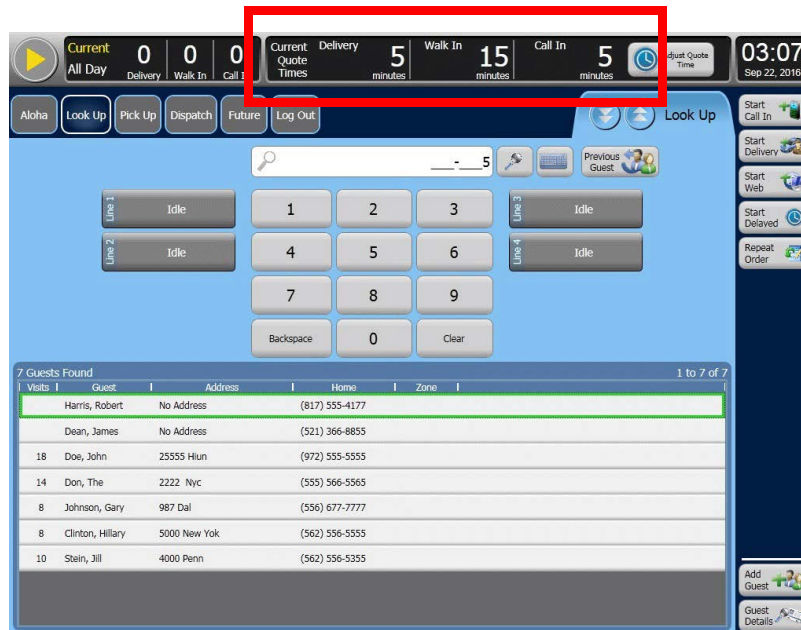

Figure 8 Aloha Takeout FOH Screen
1. From the FOH ATO screen \(Figure 8\), touch **Adjust Quote Time**.